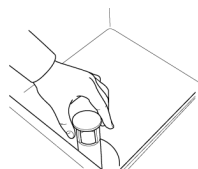

Fig.12
- 1- Open the door and verify that all internal components, water flow device included, are in the correct position. (Fig.12)